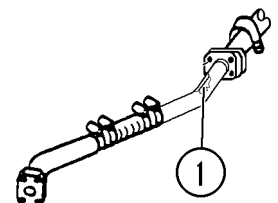

FIGURE 40-3A
4. Remove and clean Strainer (1, Figure 40-3A) from inlet to Oil Cooler (inside R.H. frame rail). Be sure to clean this strainer at every oil change and after any rear brake failure.